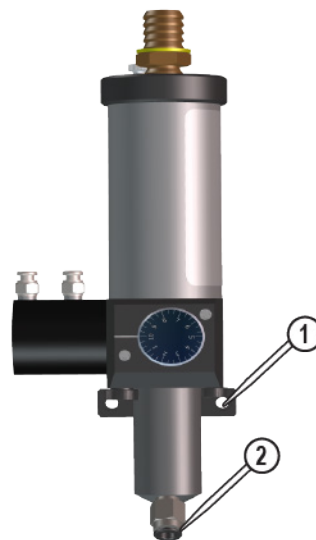

Figure 36
1. Remove the **mounting plate** [1] from the abrasive regulator (Figure 36).
2. Use the **mounting plate** [1] as a template to position and drill two holes on the mounting surface (Figure 36).
4. Replace the **mounting plate** [1] on the regulator (Figure 36).
6. Connect the delivery tube to the **tube fitting** [2] (Figure 36).